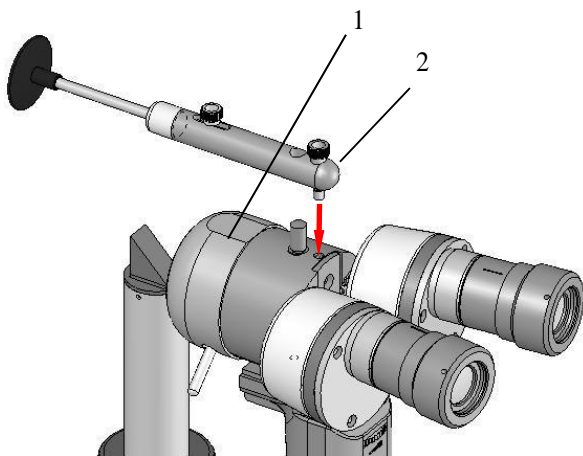

Fig.7
- 1) As shown in Fig.7, take part1 and part2 out of the box, and then screw the bolt in part2 by aiming at the screw hole in part1 as Fig.7.